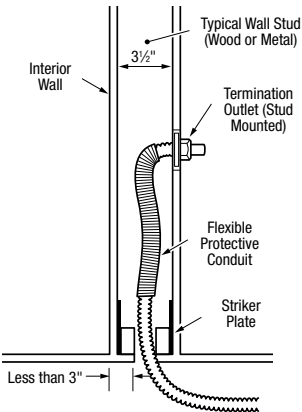

Figure 4.11 Use of Flexible Protective Conduit
- 3. At termination points using the HOME-FLEX® termination flange, HOME-FLEX® Flexible Protective Conduit should be installed to protect the CSST in the area between the striker plates and the outlet. (Figure 4.11)